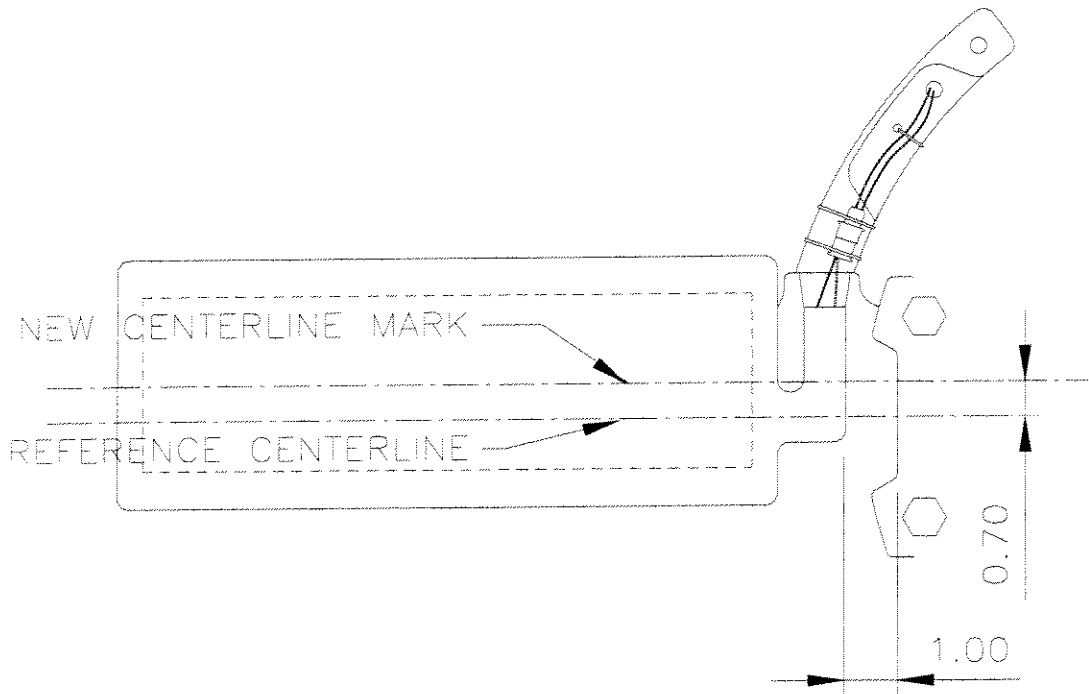

Figure 1 – Anti-Ice Boot Installation
- (1) Clean propeller surface to be bonded with Methyl-Ethyl-Keytone, (MEK). For final cleaning, wipe solvent film off quickly with a clear, dry cloth before it has time to dry.
- (2) Draw a line on centerline of leading edge of propeller blade.
- (3) Position boot on propeller so bottom of boot lead tab is 1.0 inch,  $\pm 0.063$  inch from propeller hub as shown in Figure 1. This should place the inboard edge of the boot close to the corner of the blade and blade knob.
- (4) Position boot centerline (boot centerline is indicated by embossed marks 3/8 inch long at each end of the boot on the breeze surface) over propeller leading edge centerline. These marks may be transferred to the boot side using a silver pencil.
- (5) Slide inboard end of boot centerline 0.7 inch toward the face of the prop and mark this location on the boot. This is shown in Figure 1.
- (6) Slide outboard end of boot centerline 0.7 inch toward the face of the prop and mark this location on the boot.